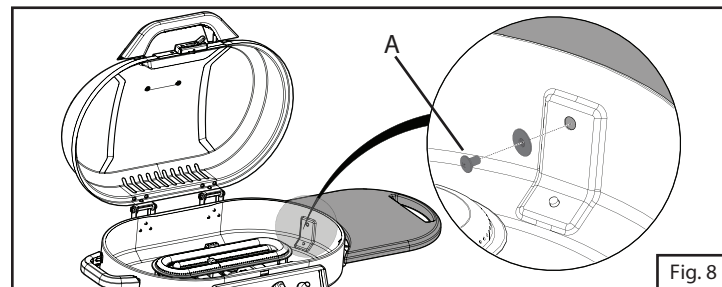

Fig. 8
6. Attach the side table by using the two (A) screws and washers. (Fig. 8)